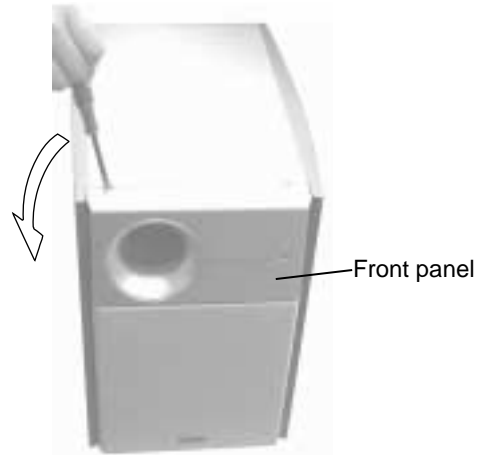

Fig.5
■ Removing the front panel (See Fig.5)